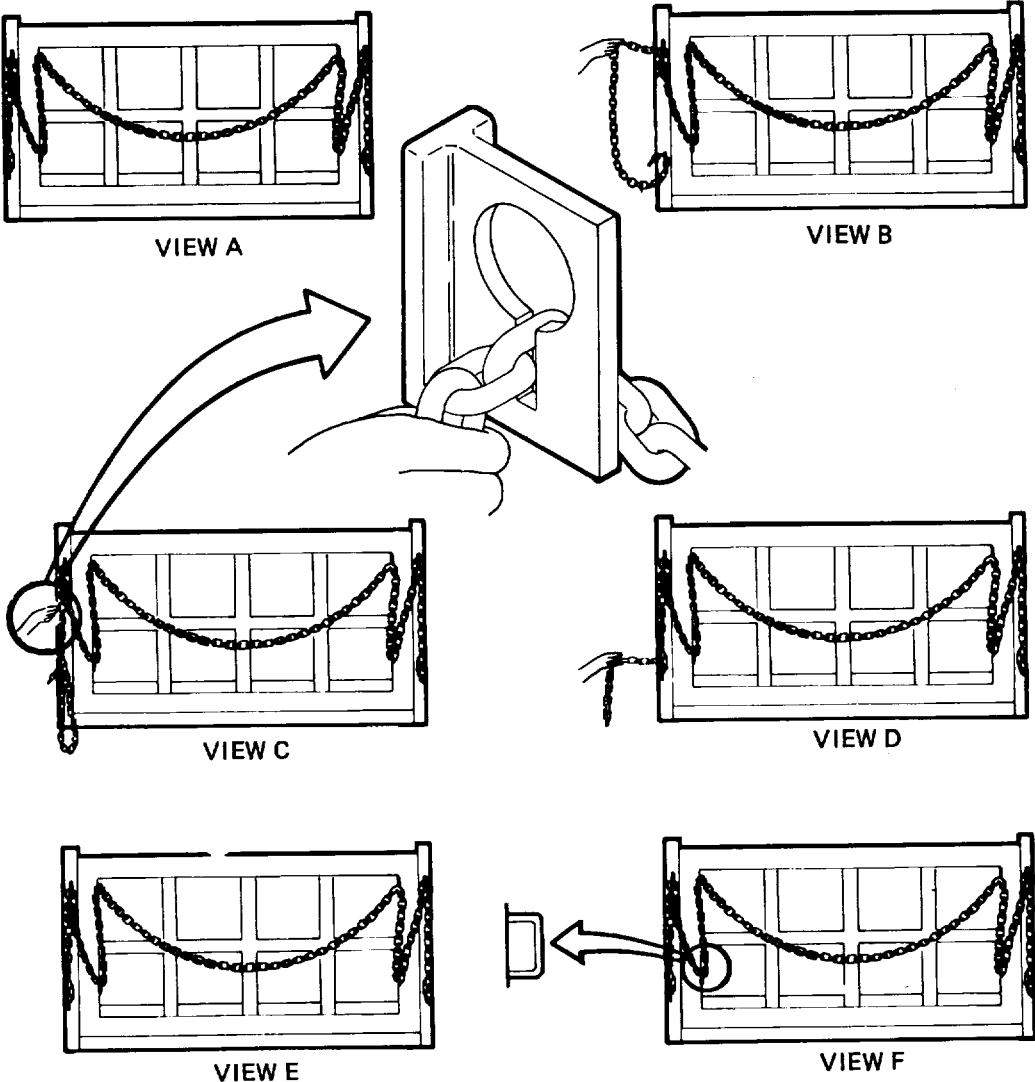

Figure 2-12. Tailgate Chain Adjustment.
- (1) Lift the chain out of the slot on the upper chain latch (view A, fig. 2-12).
- (2) Tighten the chain as necessary (view B, fig. 2-12).
- (3) Slide the chain link into the slot on the upper chain latch (view C, fig. 2-12).
- (4) Remove the chain from the slot on the lower chain latch. Pull it tight (view D, fig. 2-12). Press it back into the slot on the lower chain latch. Make sure chains hang even on both sides (view E, fig. 2-12).